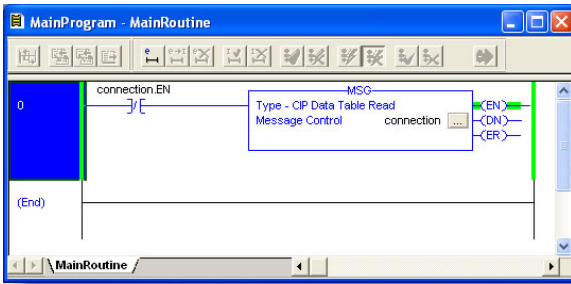

Figure 102: Complete Program
6) The program is now complete. Refer to Figure 102.